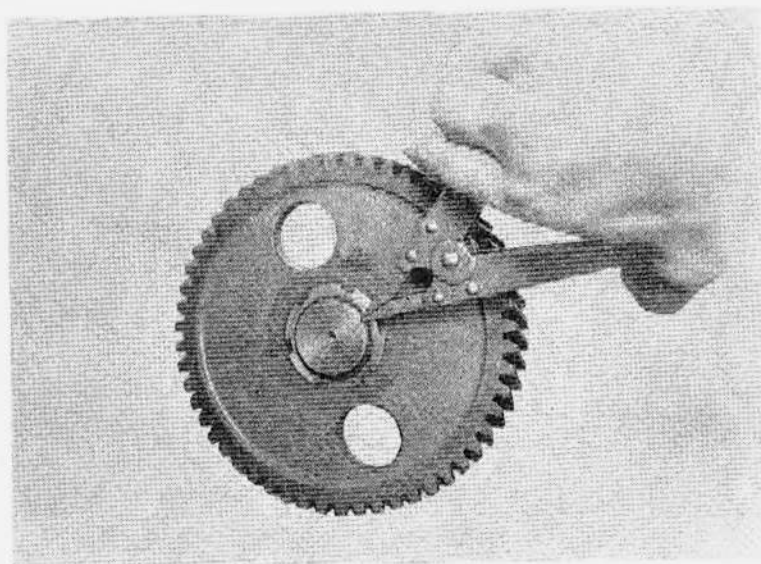
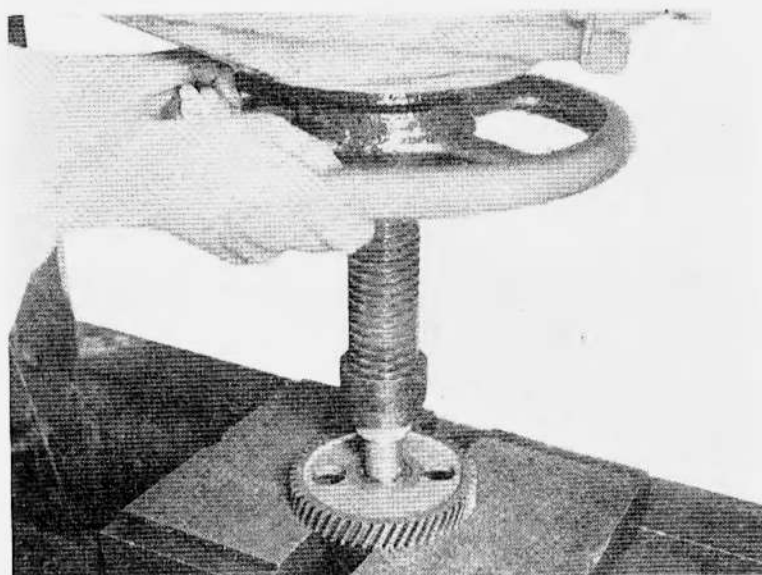

Figure 77 - Removing Camshaft Snap Ring
Figure 78 - Removing Camshaft Gear
(2) If the inspection indicated that the shaft, gear or plate should be replaced, the gear must be removed from the shaft.
(3) Remove camshaft snap ring (Fig. 77). Place the camshaft on table of a press and press shaft out of gear (Fig. 78).